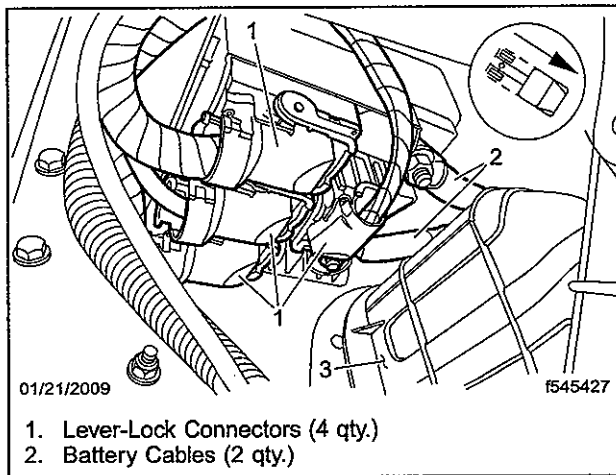

Fig. 3, SAM Cab Exterior Frontwall Connections
- 9.3 From the engine compartment and on the right side of the frontwall, mark and disconnect the two battery cables and the four lever-lock connectors from the SAM Cab. See Fig. 3.